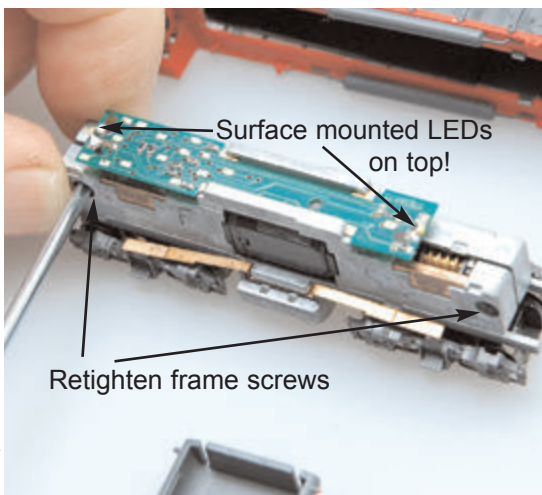

Figure 3. Atlas MP-15DC motor clip retensioning
4. Confirm the DN163A3 decoder is oriented as shown (*Figure 3*) The decoder should be placed component side down, with the surface mounted LEDs on top of the PCB. Finally retighten the frame screws to secure the decoder. If done correctly, the decoder should fit snugly.